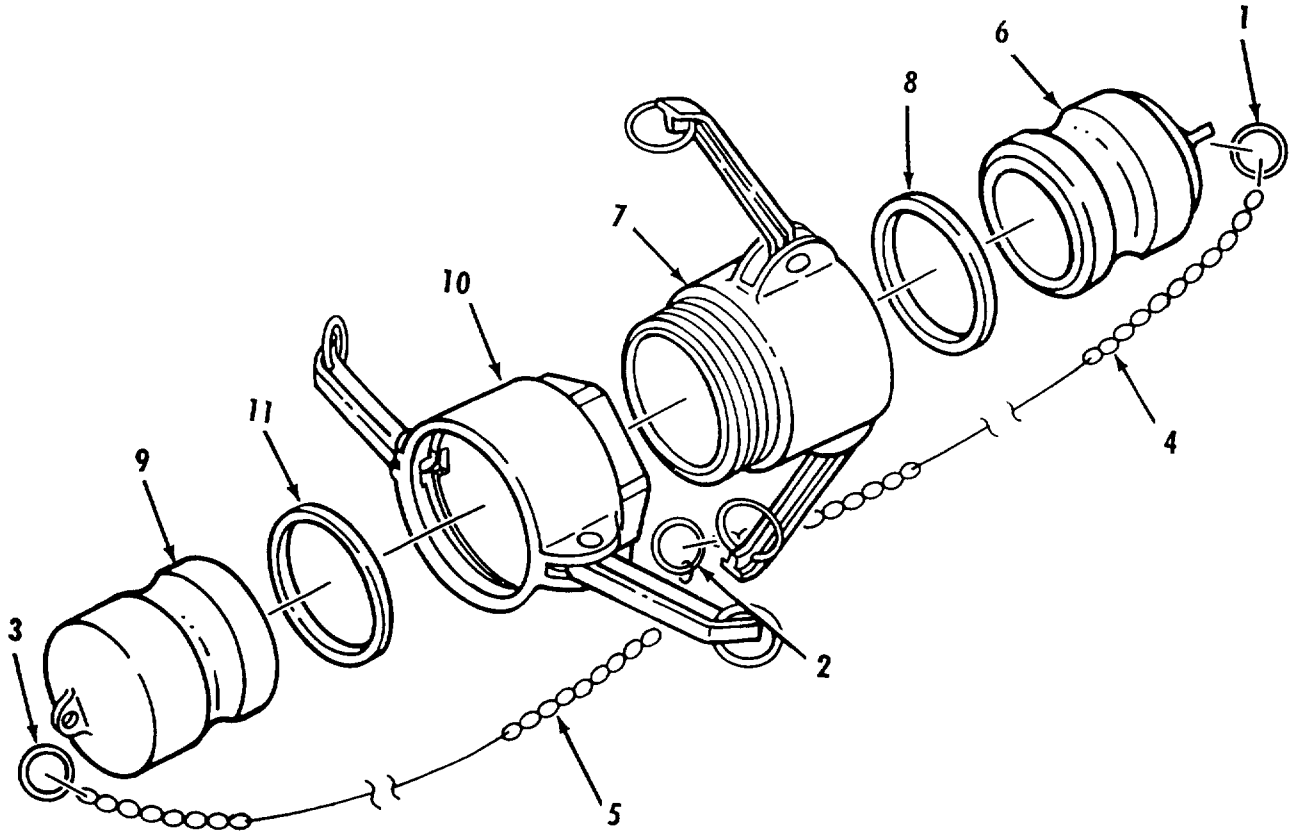

Figure 4-11. Adapter Repair.
a. Disassembly. Refer to figure 4-11.
- (1) Place assembled adapter in vise.
- (2) Disconnect split rings (1, 2 and 3) and remove chains (4 and 5).
- (3) Remove dust plug (6) from female coupling half (7).
- (4) Remove gasket (8) from female coupling half (7).
- (5) Remove dust plug (9) from female coupling half (10).
- (6) Remove gasket (11) from female coupling half (10).
- (7) Remove female coupling half (7) from female coupling half (10).
c. Repair. Replace damaged or defective parts. Do not reuse sealing components.d. Assembly. Refer to figure 4-11.**CAUTIONS**
- (1) Apply thread sealant to male threads of female coupling half(7).
- (2) Install female coupling half (10) on female coupling half(7).
- (3) Install gasket (11) in female coupling half(10).
- (4) Install dust plug (9) to female coupling half(10).
- (5) Install gasket (8) in female coupling half(7).
- (6) Install dust plug (6) in female coupling half(7).
- (7) Connect chains (4 and 5) and split rings (1, 2 and 3) to female coupling half (10) and dust plugs (6 and 9).